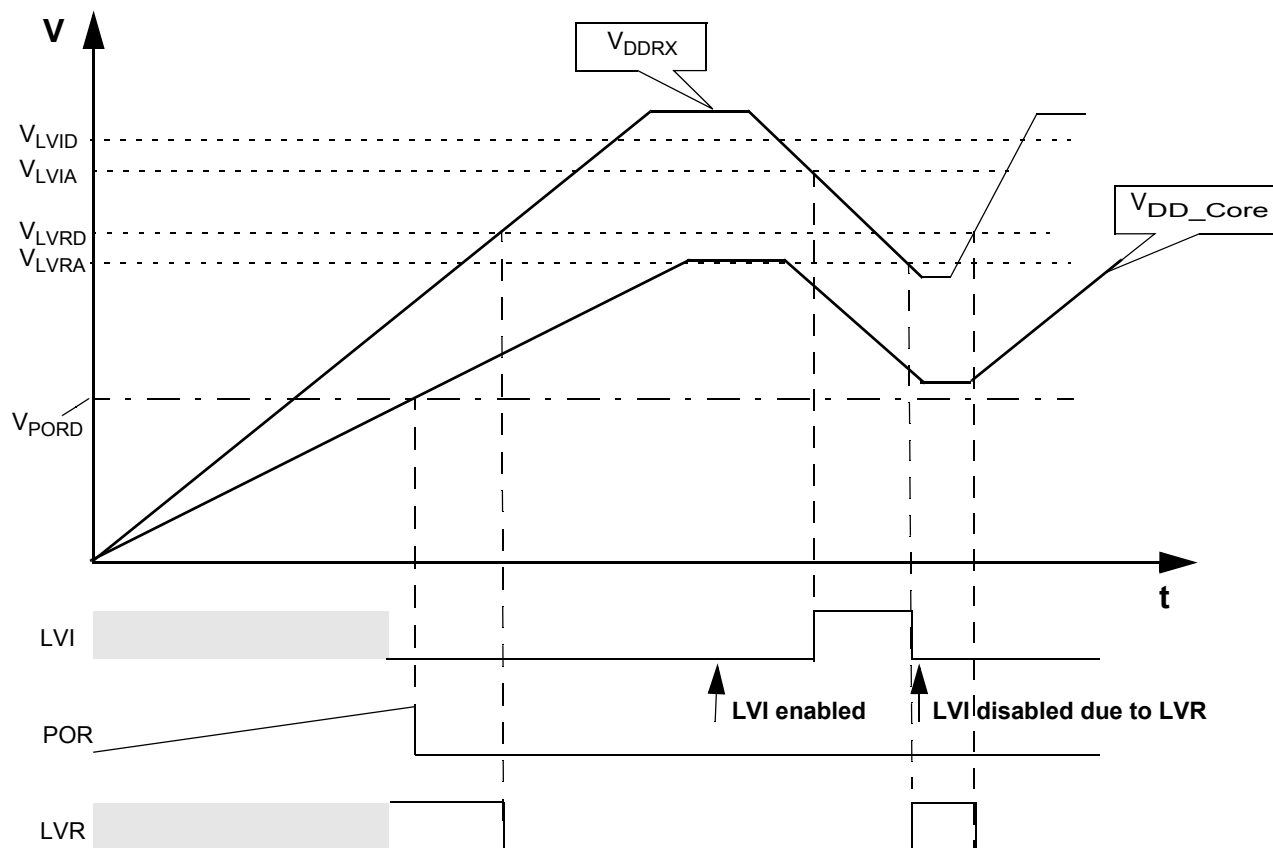

Figure 4. MC9S12164 - Chip Power-up and Voltage Drops (not scaled)
- 34. Monitors VDDRX, active only in Full Performance mode. MCU is monitored by the POR in RPM (see Figure 4).